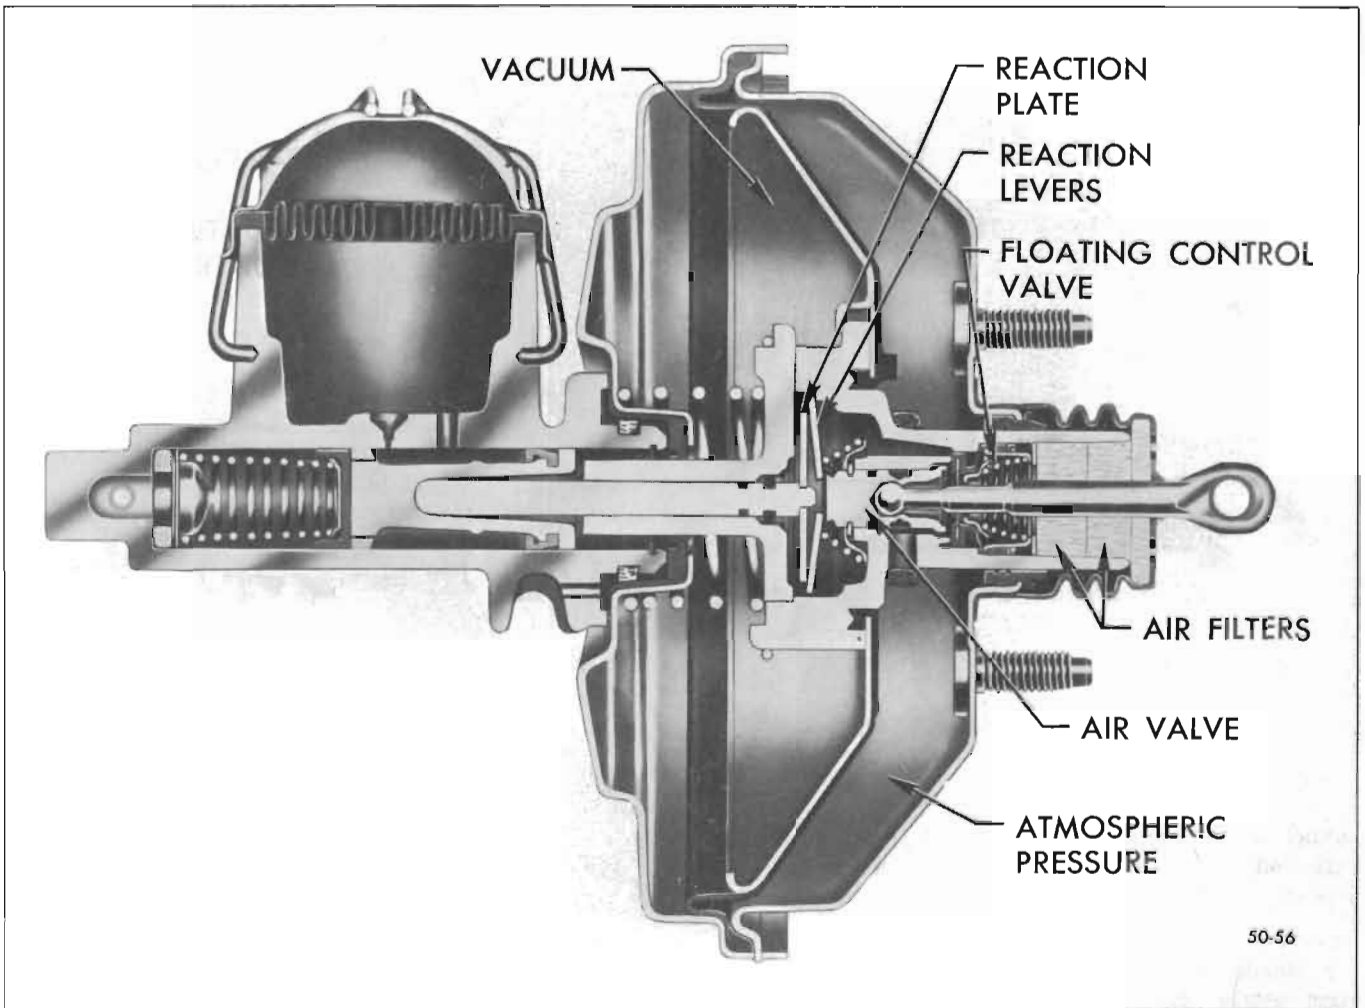

Figure 50-56—Power Brake Unit - Applying Position
2. Applying Position. As the pedal is depressed, the push rod carries the air valve away from the floating control valve. See Figure 50-56. The floating control valve will follow until it is in contact with the raised seat in the power piston. When this occurs, the vacuum is shut off to the rear side of the power piston and air under atmospheric pressure rushes through the air filter and travels past the seat of the air valve and through two passageways into the housing to the rear of the diaphragm.